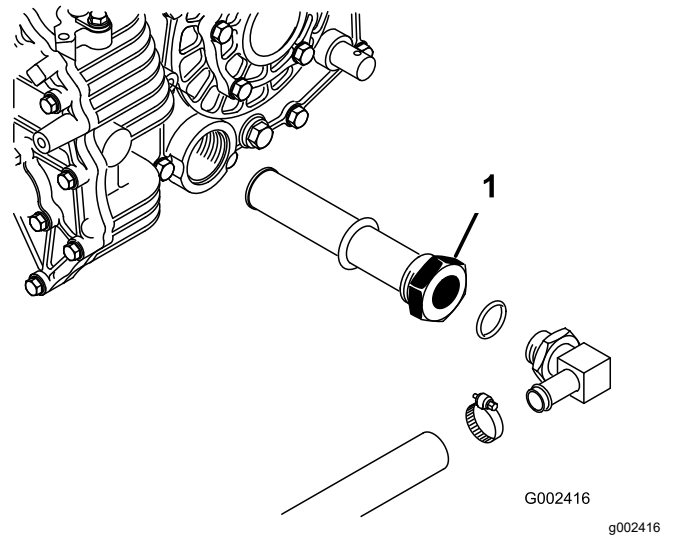

Figure 72
3. Note the orientation of the hydraulic hose and 90° fitting connected to the strainer on the side of the reservoir (Figure 72).